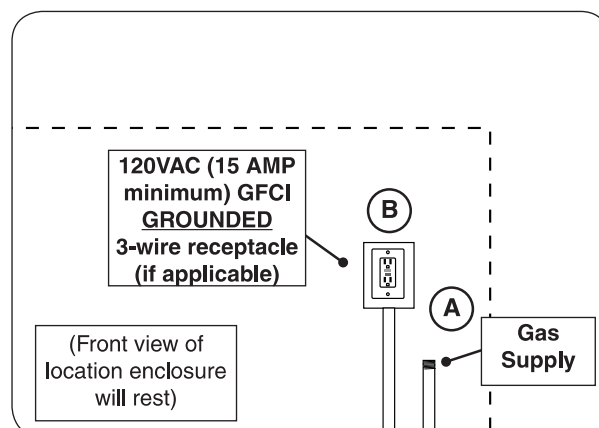

Fig. 20-1 Route gas and electrical (receptacle)
1. Route the gas supply into the area that the unit will rest over (see Fig. 20-1, A).
1. Wire the receptacle into the area that the enclosure will rest over (see Fig 20-1, B).